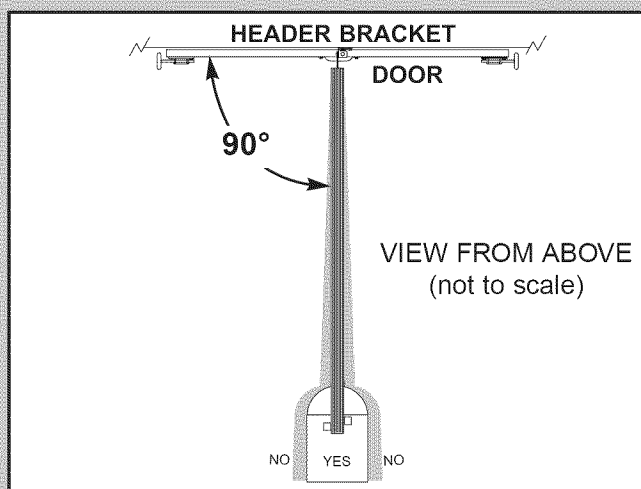

FIG. 2-9 Operator must be aligned.
**NOTE:** Before final attachment to ceiling, insure that assembly is in proper alignment (Fig. 2-9).